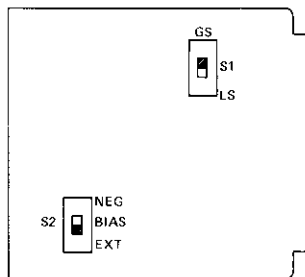

figure 5. Switch locations
3.06 Two option switches must be set before the 6106 is placed into service. Locations of these switches on the module are shown in figure 5.